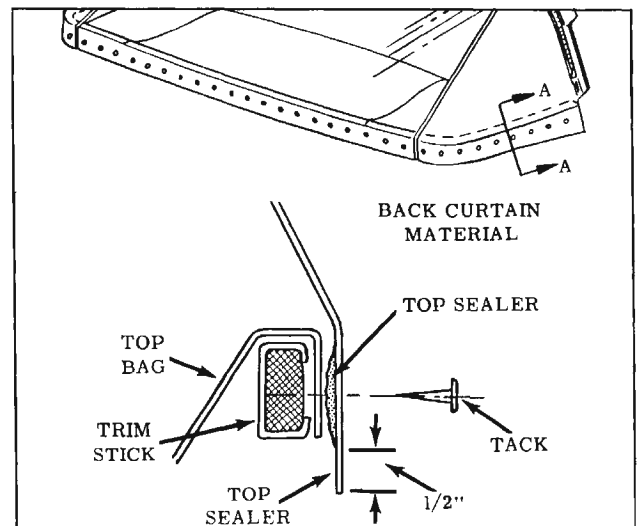
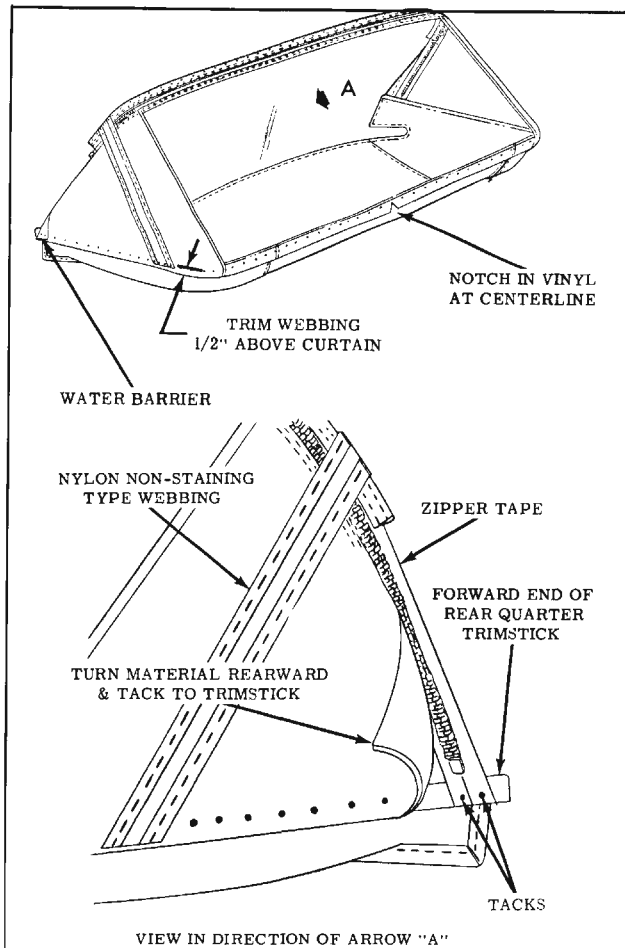

Fig. 16-121 Back Curtain Sealing
Fig. 16-122 Back Curtain Installation
5. Place back curtain window assembly on clean covered work bench with exterior (vinyl) surface of back window valance facing down. Large pliable back window must be handled carefully to avoid possible damage due to scratches, abrasions, etc. Apply bead of convertible top sealer (nitrile) along lower edge of back curtain material in area which will be tacked to rear and rear quarter trim stick. (View "A-A" Fig. 16-121).
6. Apply bead of convertible top sealer (nitrile) along lower selvage edge of back curtain material. (Fig. 16-121)
NOTE: Notch in back curtain vinyl at lower edge indicates centerline of back curtain assembly. (Fig. 16-122) In addition, back curtain lower edge should extend  $1/2$ " below lower edge of trim sticks. (View "A-A", Fig. 16-121)
forward edge of rear quarter trim stick. ("A", in direction of arrow, Fig. 16-122)
10. Tack remainder of back curtain material to rear quarter trim stick, turning forward edge of material rearward to form a water barrier. (Fig. 16-122)
12. Tack nylon webbing to rear trim stick. Forward edge of webbing should be even with edge of rear trim stick. New webbing may be cut from a piece of non-staining type webbing 2" x 19". Excess webbing should be trimmed off at rear trim stick, 1/2" above back curtain lower edge. (Fig. 16-122)